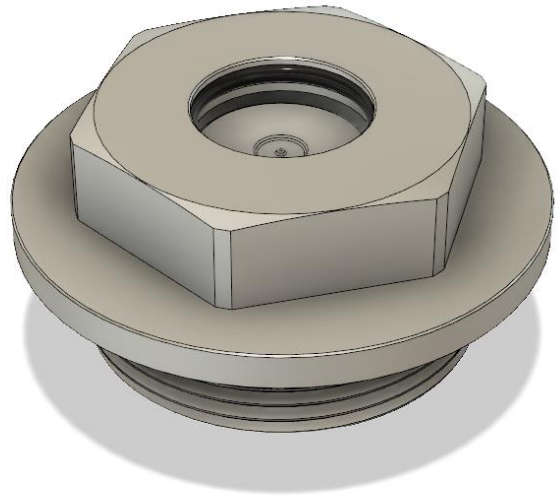

Figure 19
3. Visually inspect the valve body on the steering rack housing, if equipped (Figure 19).
⚠ CAUTION: The center valve plunger should be flush to the valve body (Figure 19). If the center valve plunger is not flush with the valve body (Figure 20), it has been in contact with water and the steering gear must be replaced (refer to Service Manual procedure 32012602).
✓ Figure 19